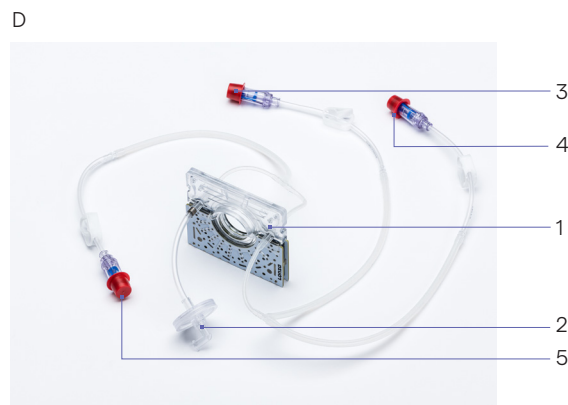

Figure 2.31: 4D-Nucleofector® LV Unit Consumables
Components of 1 mL Nucleocuvette® Cartridge (Figure 2.31, A)
Components of the LV Nucleocuvette® Cartridge (Figure 2.31, B, C)
Components of the 4D-Nucleofector® LV Reservoir (Figure 2.31, C)
Components of the LV Nucleocuvette® Cartridge, weldable tubing (Figure 2.31, D)
12. Before continuing check setup status: At this point steps 1–6 and 8 of the arrangement shown in figure 2.31 should be done.